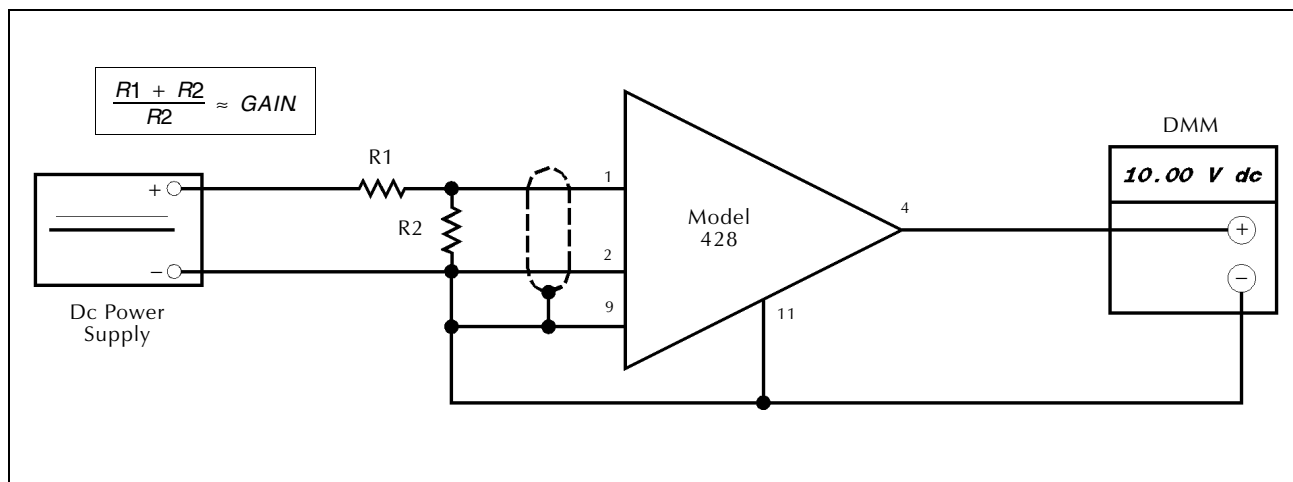

Figure 5-15
1. Connect the amplifier to be tested as shown in Figure 5-15 and set the DMM to measure 10 V dc.